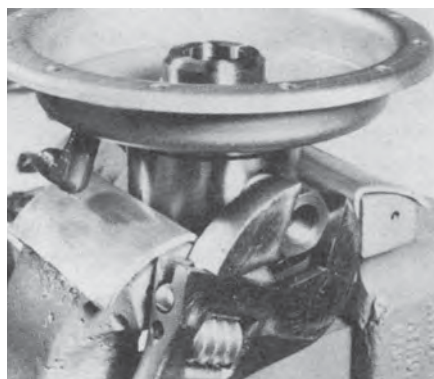
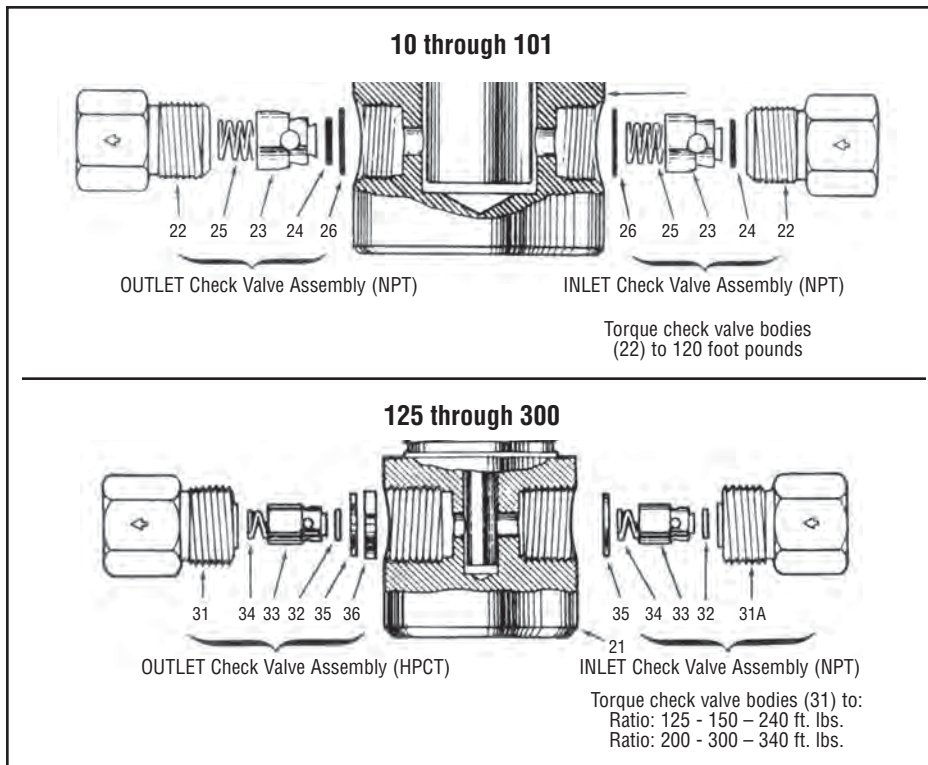
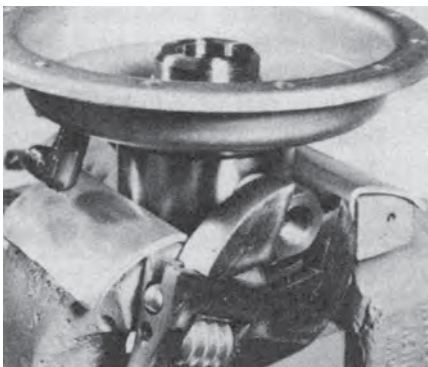

Figure 4-14 Removing check valves from fluid body.
Figure 7-2 Inlet and outlet check valves, sequence of assembly.
Figure 7-1 Installing check valves.
- 4.12 Using adjustable wrench, remove the inlet check valve assembly from the fluid body port. See Figure 4-14. Note the sequence of parts removal and the position of poppet. See Figure 7-2. Wipe surplus fluid from the inside port.
7.2 Reassemble and install inlet and outlet check valves into fluid body (21). See Figure 7-1. Note order of assembly and position of poppets (23 and 33) by referring to Figure 7-2. Note torque instructions in illustrations. DO NOT over-torque valve bodies (22 or 31) and be careful to avoid crossing threads when installing check valve bodies. On completion, remove from vise.